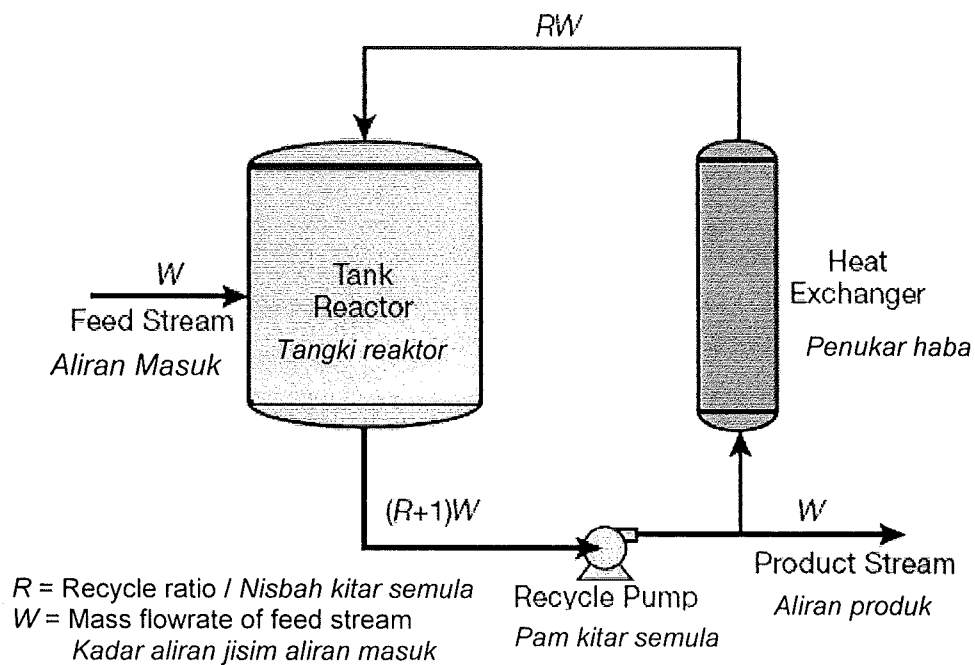

Figure 2 : Example of polymerization system
5. (a). Figure 2 shows a reactor and heat exchanger use in polymerization system. Discuss the function of heat exchanger and explain why most of continuous stirred-tank reactors (CSTR) use external heat exchanger during polymerization.